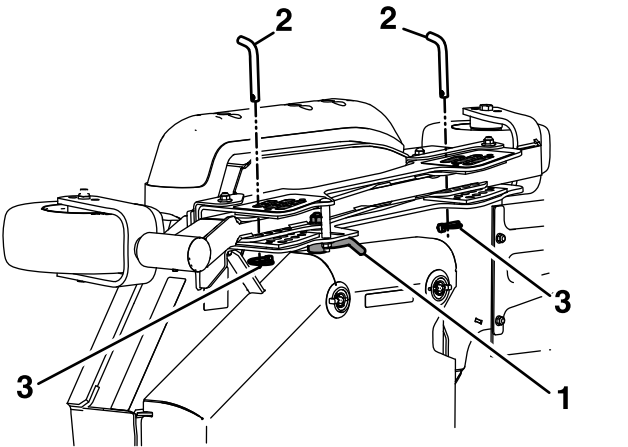

Figure 28
- B. Unlock the cam locks located on the height-of-cut channel on the wing deck (Figure 28).
- D. Move the wing deck to the appropriate height and install the height-of-cut pins and lynch pins (Figure 28).